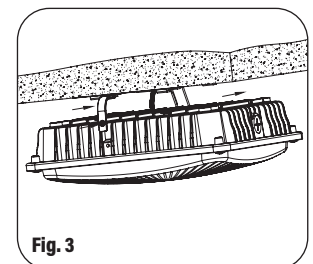

Fig. 3
**Fig. 3:** Slide the canopy light into the bracket and secure the screw on side of the light; to prevent the light from sliding out from the bracket. Installation is complete.